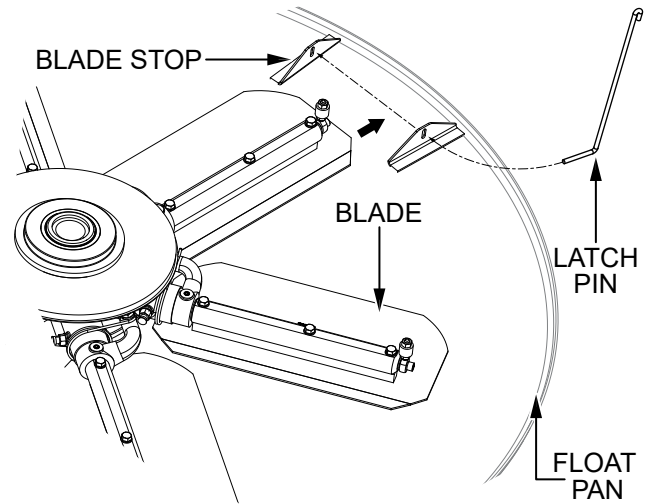

Figure 57. Float Disc Installation (Latch Pins)
1. Lift the trowel just enough to slide a float pan under the blades. Lower the finisher onto the pan with the blades between the blade stops (Figure 57).
2. Route a latch pin through the holes in the blade stops as shown in Figure 57.